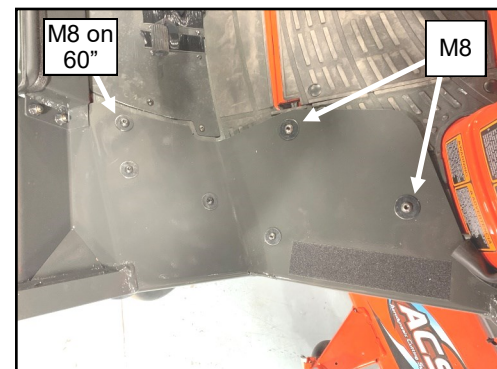

Fig. 5.9 (Install Floorboard Bolts)
- 5.9 See fig. 5.9. Fasten the cab to the floor of the tractor using the following hardware. Note: On 60" tractors, use 6 M8 bolts. On 72" tractors, only install 4 M8 bolts and leave additional slot open.